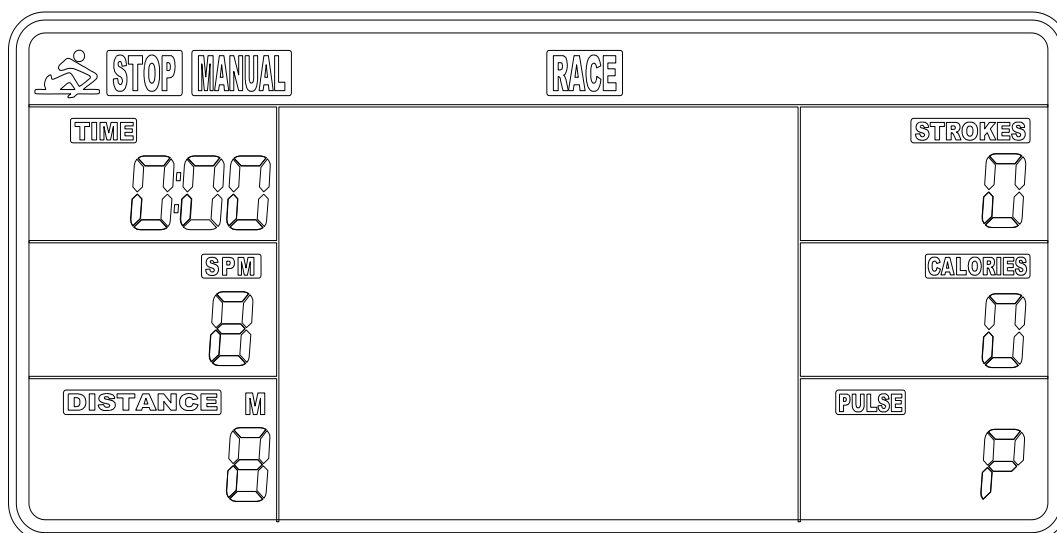

Fig 3
2. The CLOCK will flash. Press UP button to set the hour. Press ENTER to confirm. Press UP to set the minutes. Press ENTER to confirm. Continue press UP button to set the YEAR (in the STROKES window); MONTH (in the CALORIES window); DAY (in the PULSE window). Press ENTER to confirm when it is set. After you confirm it, the ALARM will beep. Press ENTER to skip setting up the alarm. To set up the alarm, press UP button to turn on ALARM. An arrow will appear next to ALARM. Press ENTER. CLOCK window will flash. Press UP or DOWN buttons to set the alarm time. Press ENTER to confirm. Meter will go into the SPORT screen (Fig.3).